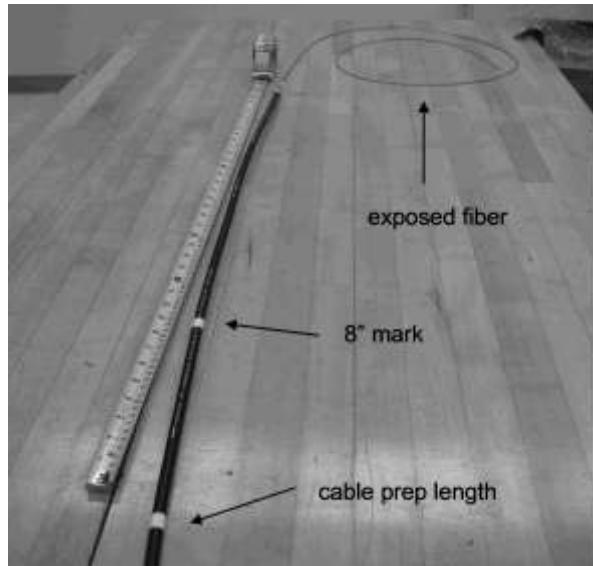

Figure 13 – Remove the outer jacket, armor, and buffer tube to expose the fibers.
5.4 Follow steps **4.3** thru **4.9** from the previous section to expose the required length of optical fibers. This fiber length will be stored in the splice tray of the closure. (Figure 13).